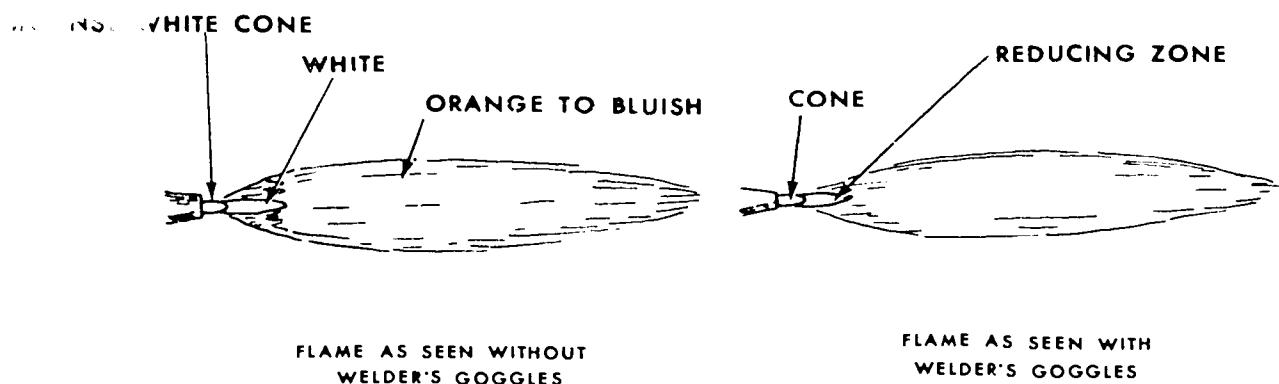

Figure 1-14. Carburizing flame.
**Reducing or Carburizing Flame.** The reducing or carburizing flame, figure 1-14, is produced by slightly less than 1 volume of acetylene. To obtain this flame, you first adjust the welding flame to neutral and then open the acetylene torch valve slightly to produce a white streamer or "feather" of acetylene at the end of the inner cone. You can recognize the reducing or carburizing flame by the presence of three distinct